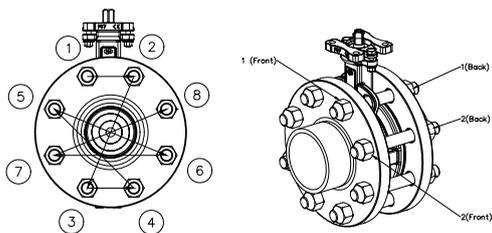

Figure 4
6) Tighten the flange bolts in the order shown in Figure 4.